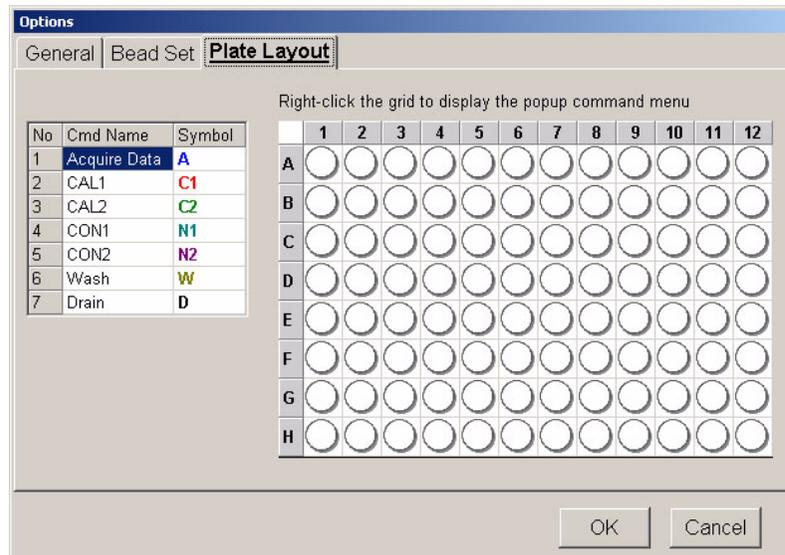

Figure 37 Plate Layout Tab
- Click the **Plate Layout** tab. See Figure 37. On this tab you define commands for the desired wells on the plate. You can define commands that apply to one or more wells, one or more rows of wells, or one or more columns of wells. You can define on-plate or off-plate commands.